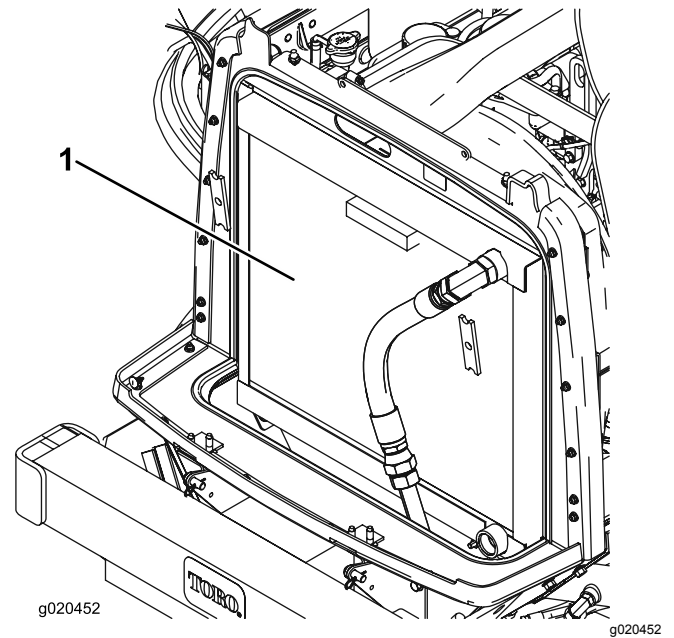

Figure 93
3. Clean both sides of the radiator/oil cooler area thoroughly with compressed air (Figure 93).